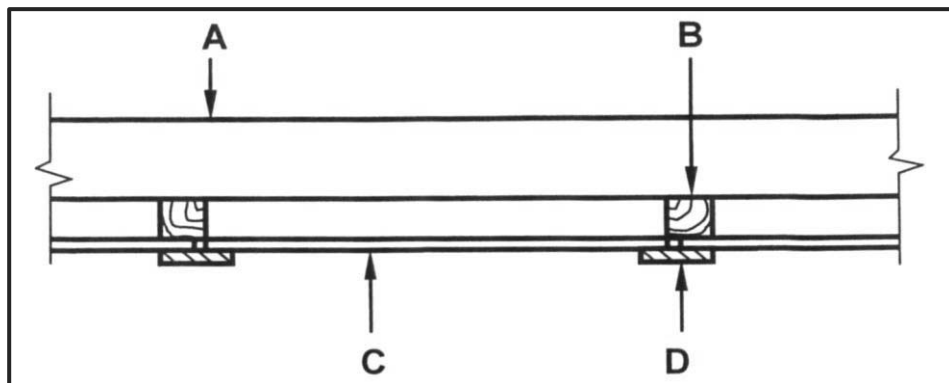

FIGURE 6.4.1
- 6.4 6.4.1 FIGURE 6.4.1 below shows a sectional view of a conventional trap door. Study the sketch and give ONE word for each of the letters (A–D) by choosing a word from the list below. Write only the word next to the letter (A–D) in the ANSWER BOOK, e.g. E – Rafter.